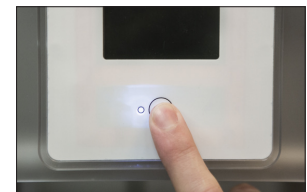

Fig. 11
11. The LED on the control panel should light up indicating the printer has power. Remove the "Warning" label from the touchscreen. (Fig. 11)